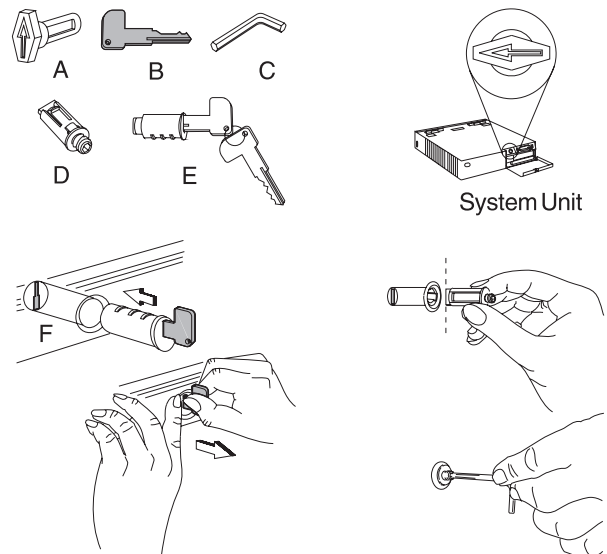

Figure 1-18. Keylock Removal and Replacement
- 3 See Figure 1-18 for identification of the lock pieces.
- 5 Insert the lock installation-removal key (B) fully into the lock insert (E).
- 6 Pivot the key slightly downward while pulling the lock insert out of the cylinder (F) until the insert is disengaged from the cylinder.
- 7 When exchanging the lock insert, it fits all the way into the lock cylinder only when the slot in the bottom of the cylinder and the lug on the end of the insert are both in alignment. If necessary, insert the aligner tool (A) into the lock cylinder and rotate it until you feel it engage the slot at the bottom of the cylinder. Then turn the aligner tool until the arrow points to the left.
See Figure 1-18 for identification of the lock pieces.